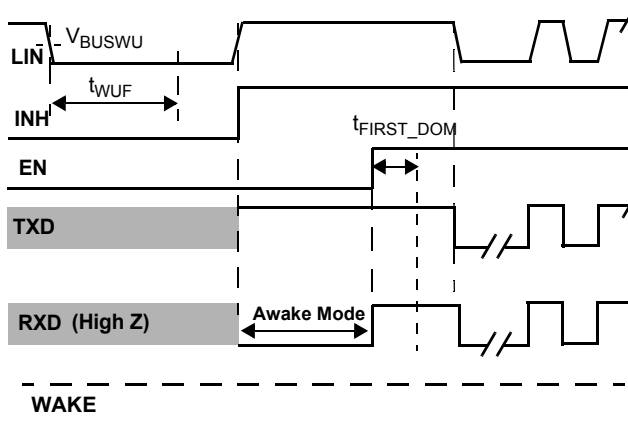
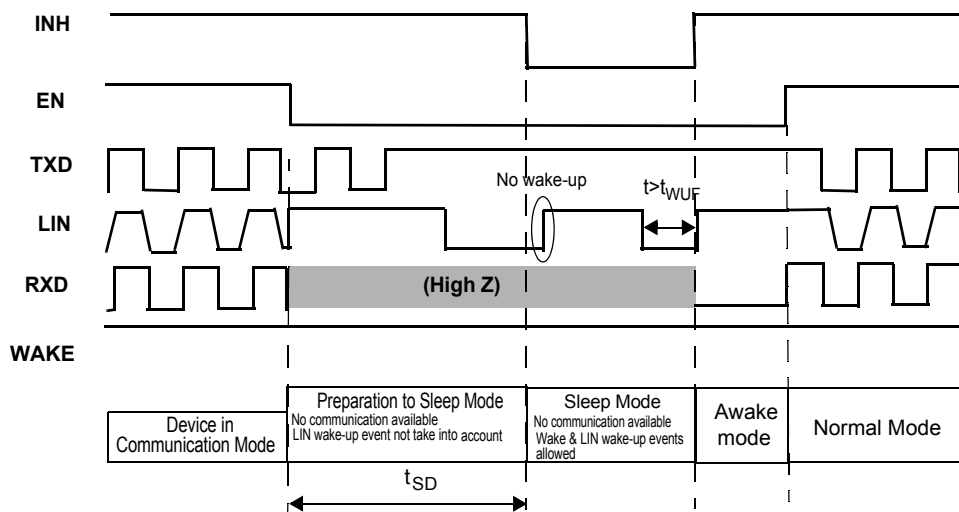

Figure 16. LIN Bus Wake-up with TXD High
Figure 20. LIN Bus Wake-up with LIN bus in Dominant During the Preparation to Sleep Mode
- See Figure 16, 19, and Figure 20